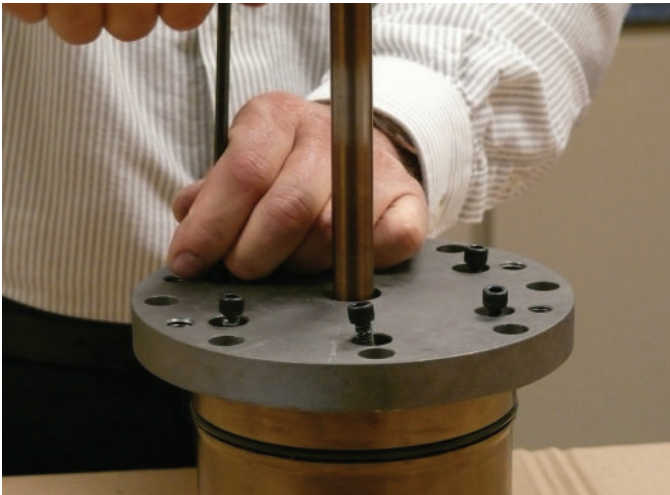

Figure 9-15 Separate Valve Cylinder from Cylinder Head
15. Remove socket head screws (Item 10) to separate valve cylinder from the cylinder head (Item 7). (Figure 9-15)